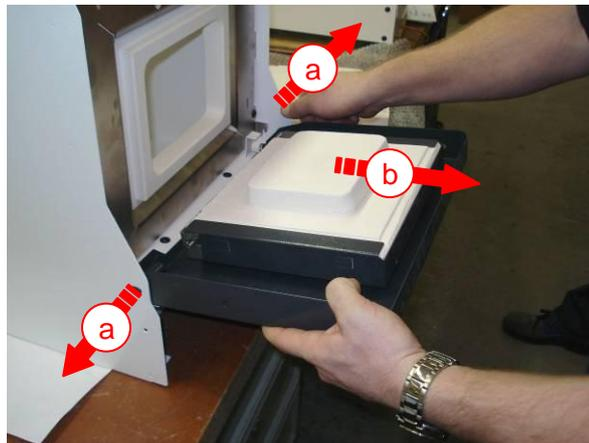

Fig.6 – Remove door
- Gently press the metal housing outwards (Fig. 6 a) until the door is released from its retainer
- Reinsert the door (Fig 6) in the housing and screw the fastening screws (Fig 4 + 5) down.